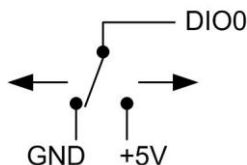

Figure 4. Schematic showing switch detection by digital channel DIO0
When you configure the digital bits for input, you can use the USB-TC-AI digital I/O terminals to detect the state of a TTL-compatible device. Refer to the schematic shown in Figure 4. If you set the switch to the +5V input, DIO0 reads *TRUE* (1). If you move the switch to GND, DIO0 reads *FALSE* (0).